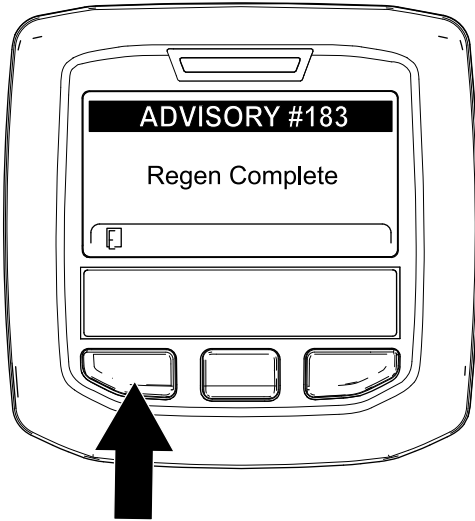

Figure 68
9. When the engine computer completes a parked or recovery regeneration, the InfoCenter displays ADVISORY #183 (Figure 68). Press the left button to exit to the home screen.
Note: If the regeneration fails to complete, the InfoCenter displays Advisory #184 (Figure 68). Press the left button to exit to the home screen.